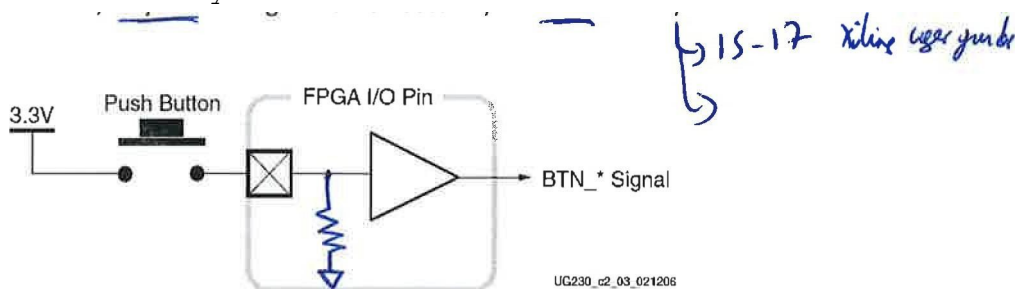

Figure 1: Push-Button Switches
- (10) c. Figure 1 shows a push-button connected to an I/O block of an FPGA. Explain how should we configure the I/O block to be able to correctly read the logic values coming from the push-button, why that configuration is necessary and how we may do that.